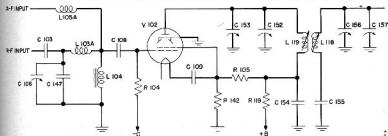

Fig. 35. Radio Transmitter BC-684-A: Functional Diagram of Modulator and Rectifier
d. Modulator and Rectifier. A functional diagram of the modulator and rectifier stages is given in Fig. 35.
quency) in the absence of any modulating signal. An audio-frequency (sine wave) signal is shown in Fig. 36b. As shown in Fig. 35, the two currents pass through L104 to ground. The combined current is shown in Fig. 36c. Figure 36d shows the inductive voltage peaks generated in L104 (near zero instantaneous coil current) by the combined current.
The peaked voltage across L104 is rectified by a biased rectifier, V102, as shown in Fig. 35. The fixed bias on the grid of V102 is sufficient to eliminate all portions of the wave shown in Fig. 36d except the upper peaks. The rectified output of V102 is illustrated in Fig. 36e. The wave shown in Fig. 36f is representative of the fundamental component of the wave in Fig. 36e. The difference between the evenly spaced intervals on the "time axis" and the points of "zero current" represents the amount by which modulation has shifted the wave.